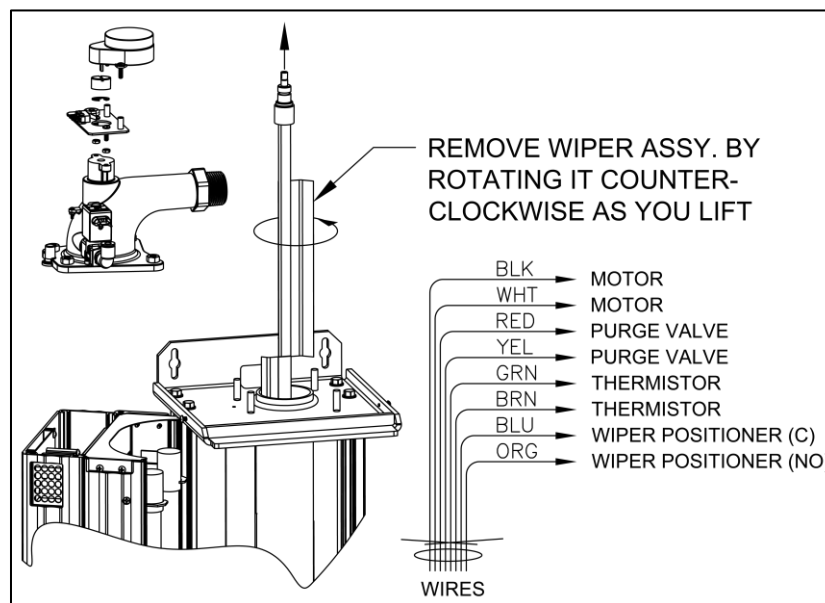

Figure 7-6
12. Press down on the wiper shaft and remove the top manifold (Figure 7.6) by lifting it straight up to disengage the wiper shaft. The shaft adapter should remain on the top of the wiper shaft. Note the orientation of the slot to the wiper blades – the slot is aligned to the wiper blades.